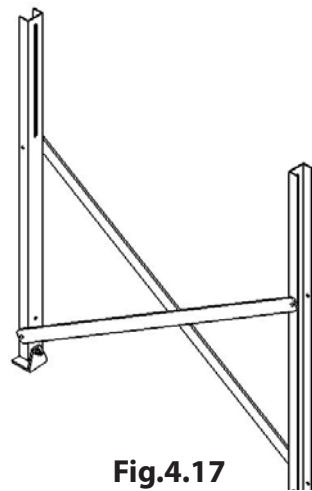
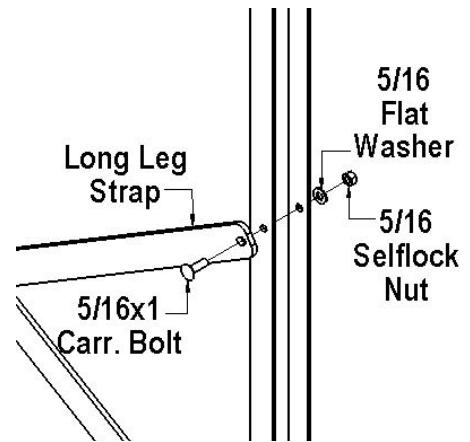

Fig.4.17
Fig.4.18
4.6 Long Leg Support: Long Leg Supports are required on any ramp with a rise of 36" or greater. Two leg brace straps will be required at each location requiring long leg supports. Attach the first leg brace strap to the leg channel, using the slotted hole at the end of the leg brace strap and the round hole punched in the leg channel, run a carriage bolt through both and fasten with washer and self locking nut on the inside of the leg channel (**Fig.4.18**). Finger tighten only, and attach the next strap on the other side of the ramp at the opposite end of the leg. Once hardware has been installed at both ends of the leg brace strap tighten hardware all of the way down (**Fig.4.17**). Repeat these steps on the other side of the legs running the straps the opposite direction so that the leg brace straps form an X between the ramp legs.